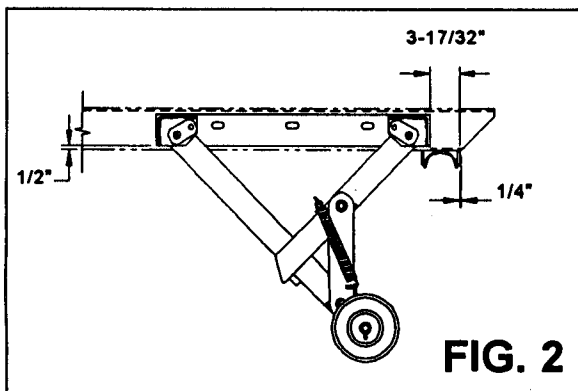

FIG. 2
3. Measure the distance from the bottom of the truck frame to the ground (NOTE: This should be performed on a level surface). Based this measurement and the dimensions in Fig. 1, the vertical channel [P/N: 63H94] may need to be modified in length to meet the Office of Motor Carrier Safety (OMCS) regulations. Regulation 393.86 requires that no bumper be located more than 30" off the ground when the truck is empty, and the end of the bumper should not be located more than 24" from the extreme rear of the vehicle, including truck bodies (See Fig. 2). Once the length has been determined for the vertical channels, weld them to the truck frame (See additional notes on next page).
- Position drop down bumper on the longsills of the sub-frame (See Fig. 2 & 3). The mount brackets [Part No. 51H17] need to be positioned correctly to allow for sufficient room for bumper cradles [Part No. 51H19] (See Fig.2). Weld mount brackets onto the longsills of the sub-frame.
- Position bumper cradles [Part No. 51H19] on the longsills of the sub-frame. Check bumper cradles for squareness with respect to each other. The bumper tube [Part No.51H16] should come to rest within the bumper cradles when the container rests on the ground (See Fig. 2 & 3). Weld bumper cradles into place on longsills.
3. Weld the front [62H87] and rear [62H88] brackets to the support bars. Be sure to maintain the dimensions as indicated so that the bumper folds properly (See Fig. 2 & 3).
2. Center fender above tire using block to maintain the proper height. Fender should be approximately 6" above tire to allow for suspension movement (See Fig. 1). A maximum width of 48" from center of the truck to the outside edge of the fender should be maintained (See Fig. 2).